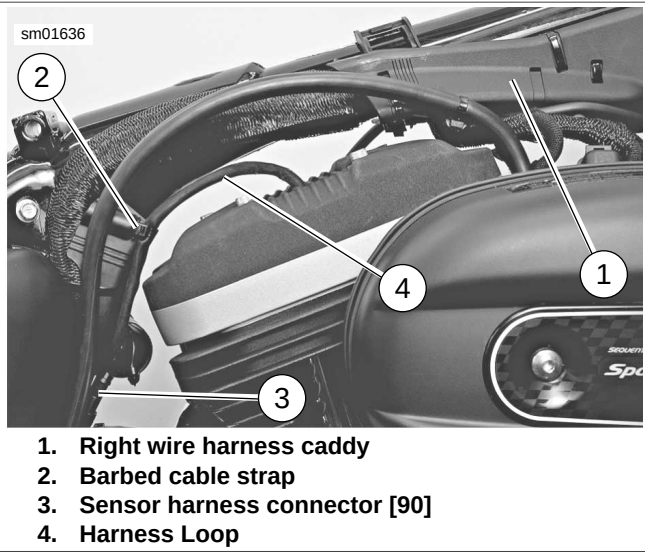
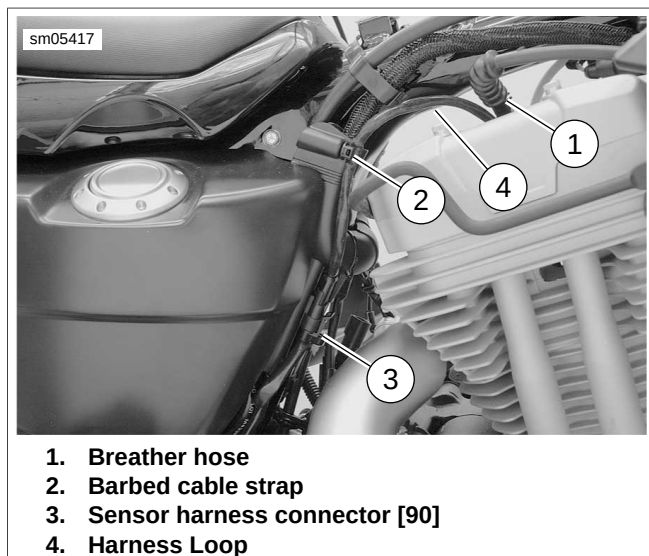

Figure 4-33. Engine Temperature Sensor Harness: XL Models
Figure 4-34. Engine Temperature Sensor Harness: XR Models
4. See Figure 4-33 or Figure 4-34. Disconnect the ET sensor connector [90] (3) located on right side of H-bracket.
5. Cut barbed cable strap (2) to free sensor harness from H-bracket.
6. **XR models:** See Figure 4-34. Disconnect the breather hose (1) from the rear cylinder to gain access to the sensor.
See Figure 4-33. Make sure there is a loop (4) in sensor harness when securing harness. If harness is pulled tight, it could be damaged during vehicle operation.
4. See Figure 4-33 or Figure 4-34. Use a barbed cable strap (2) to secure sensor harness. Position cable strap so harness forms a loop (4) between sensor and cable strap.
5. Connect sensor connector [90] (3) and secure to caddy.